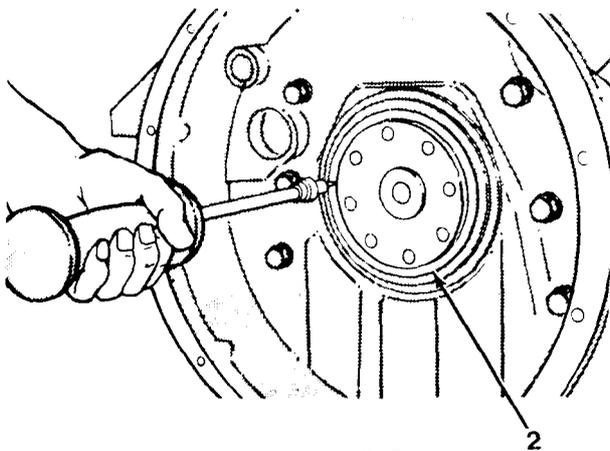

Figure 6-5
3. Using a slide hammer fitted with a sheet metal screw, remove rear seal (2, Figure 6-5).